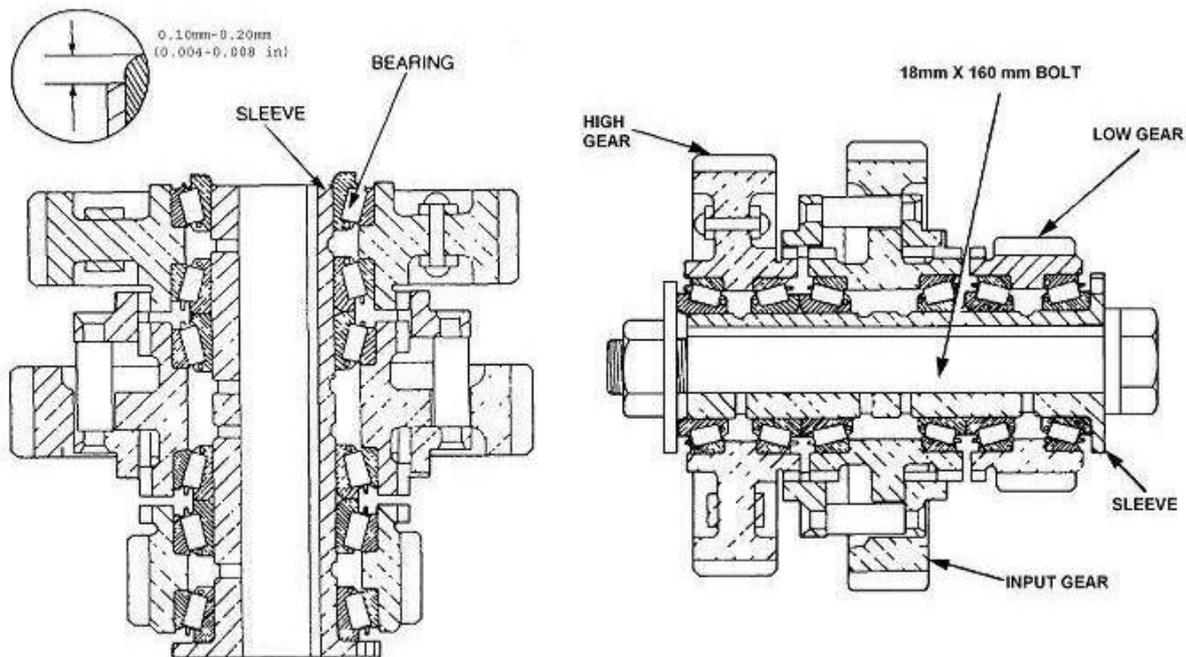

Figure 65 Intermediate Gear Assembly Preload Adjustment and Shim Selection
- b. Using an 18 mm bolt, flat washers and nut and with the head of the bolt secured in a vice, place the sleeve on the bolt and gradually tighten the nut to 130 N.m (96 lbf.ft). Do this while rotating and tapping the gears lightly with a soft hammer to ensure the bearings are fully seated (Figure 65).
- d. Using a dial indicator or micrometer, measure the gap between the shoulder of the sleeve and the face of the bearings (Figure 65). Select a shim washer to obtain a pre-load of 0.10 to 0.20 mm (0.004 to 0.008 in).